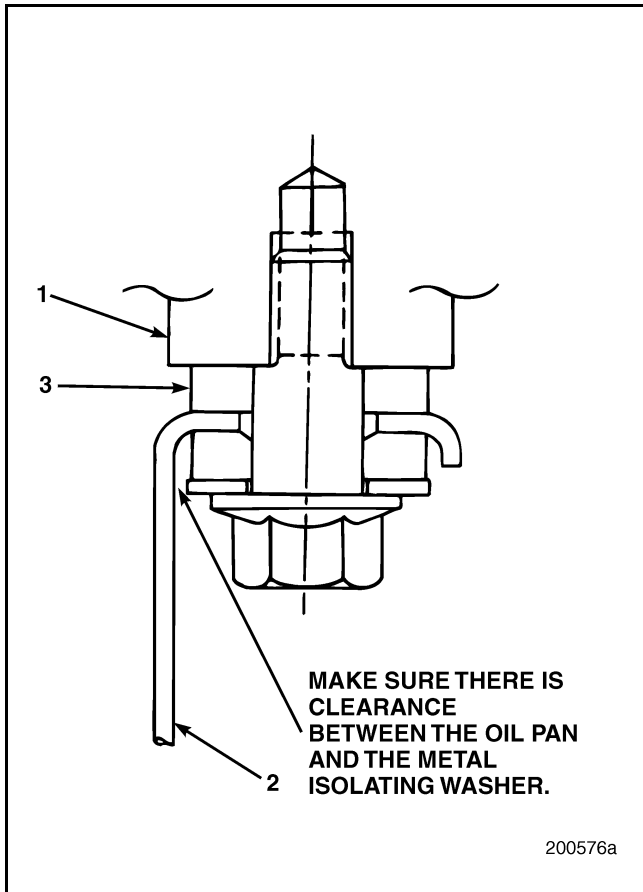

Figure 274 — Checking Clearance
6. When installing the oil pan on the engine, center the pan before tightening the fasteners so that the edges of the metal isolator washers do not touch the pan. Refer to Figure 274.